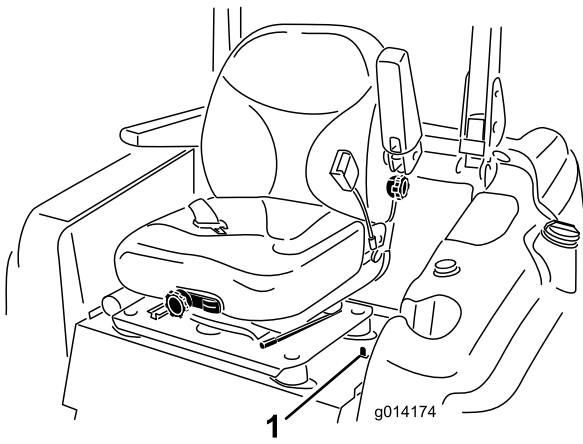

Figure 1
2. Move the seat latch (located on the left-hand side of the seat) rearward to unlatch the seat, then pull forward on the top of the seat until the seat tilts forward and contacts the steering wheel (Figure 1).